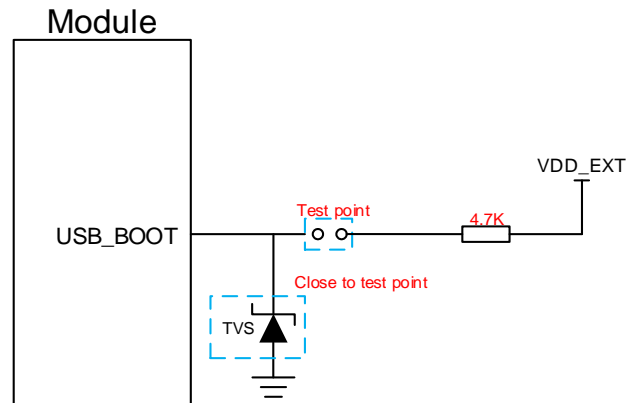

Figure 31: Reference Circuit of USB_BOOT Interface
2. When using MCU to control module to enter into the forced download mode, follow the above timing sequence. It is not recommended to pull up USB_BOOT to 1.8V before powering up the VBAT. Short the test points as shown in **Figure 31** can manually force the module to enter into download mode.